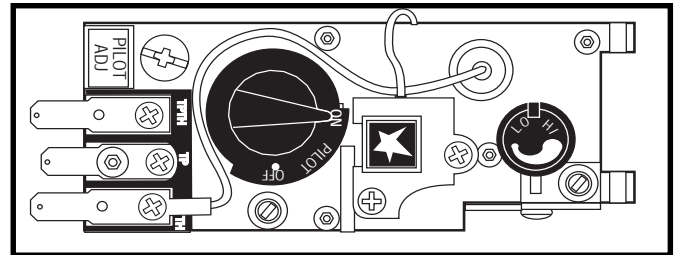

Fig. 21 UVS27R/Honeywell Control Valve in ON position. Use this position for remote switch operation.
7. HONEYWELL: Turn gas control knob counterclockwise  to "ON". (Fig. 21)